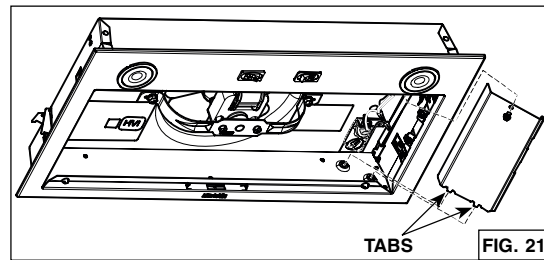

FIG. 21
2. Reinstall the wiring compartment cover in the unit; ensuring the bottom tabs are inserted in their embossed location. Secure in place using its retaining screw (FIG. 21).